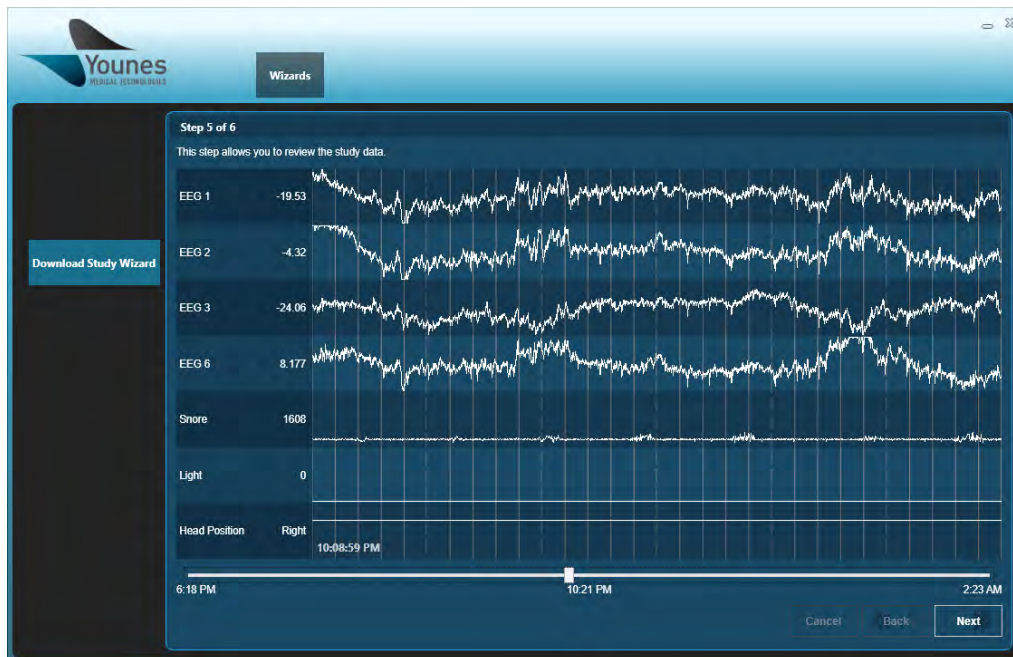

Figure 83 – Windows PC Prodigy Application Data Screen (Download Study Wizard)
10. Once the study has been downloaded and combined (optional), you will be provided an opportunity to review the data, as shown in Figure 83. You can progress through the study by either using the mouse wheel or the scroll bar located below the study data.